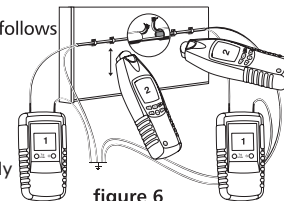

figure 6
- Connect both transmitters as shown in the figure 6.